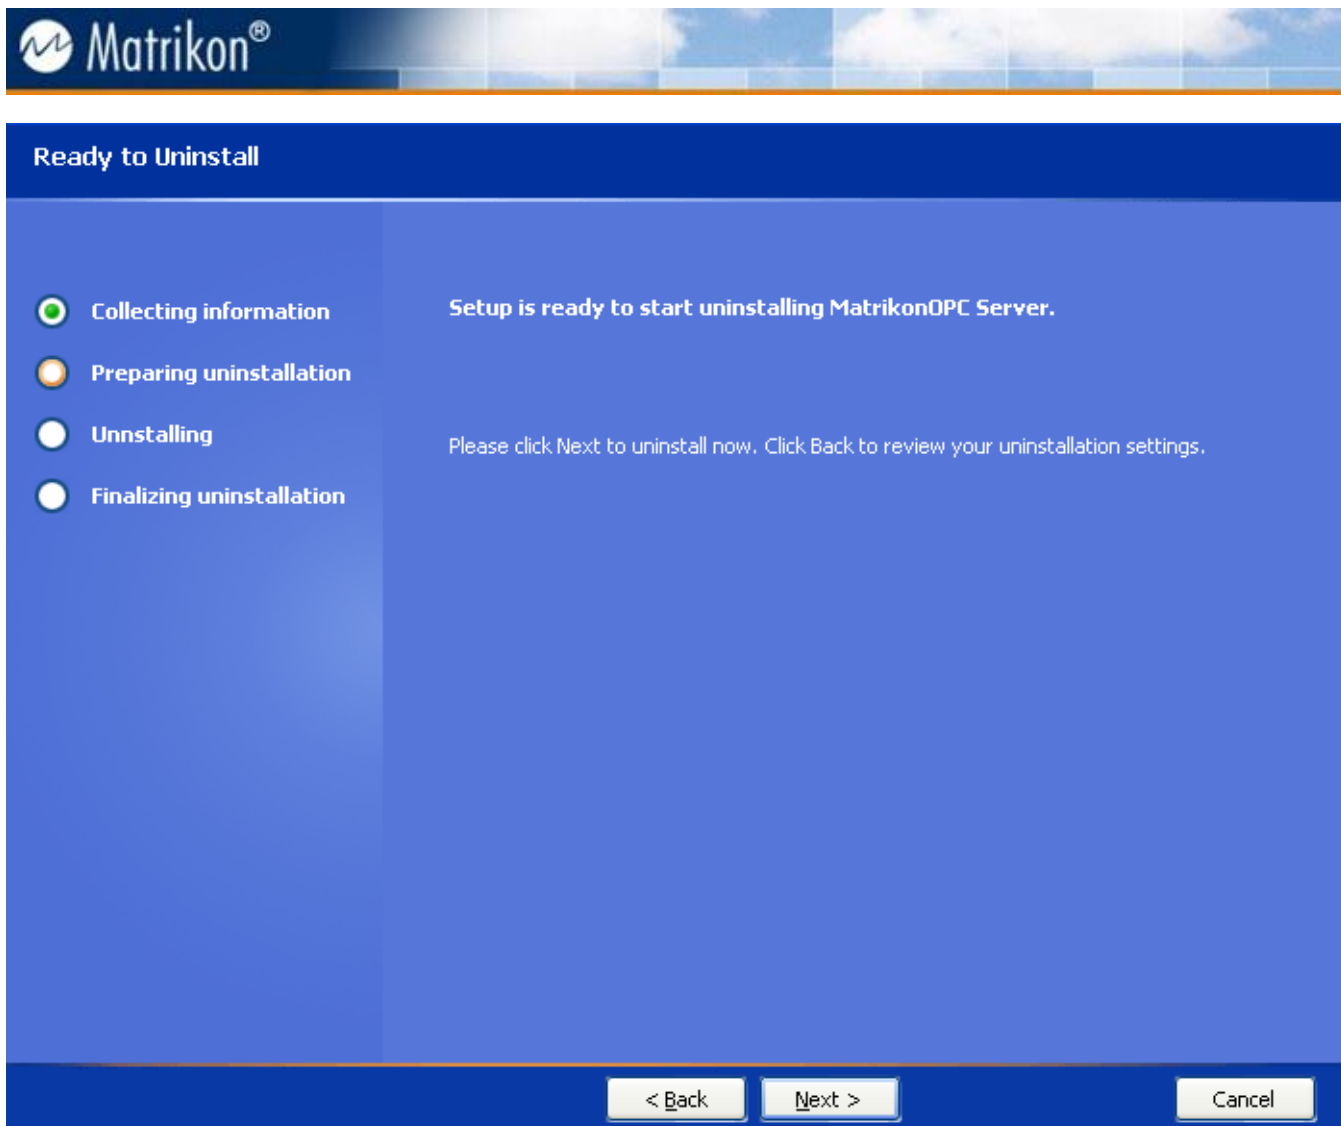

Figure 91 - Ready to Uninstall Screen
8. Click on the **Next** button. The **Ready to Uninstall** screen (Figure 91) is displayed.